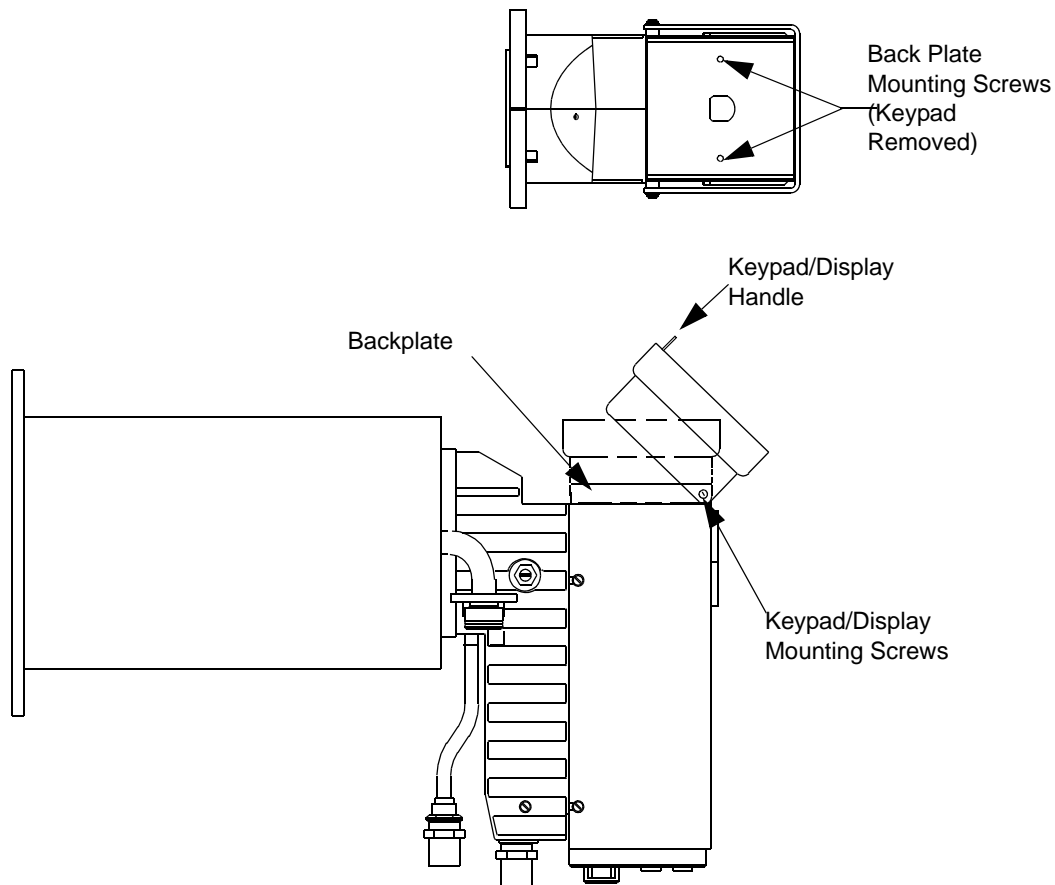

Figure 2-3: Keypad/Display Mounting Position B
Refer to Figure 2-3 and the following procedure to install the keypad/display in position B.
3. Rotate the back plate, being careful not to strain the cable, so the keypad/display mounting screw holes are oriented as shown in Figure 2-3.
5. Remount the keypad/display using the 2 screws, washers, and nuts removed in step 1 as shown in Figure 2-3.